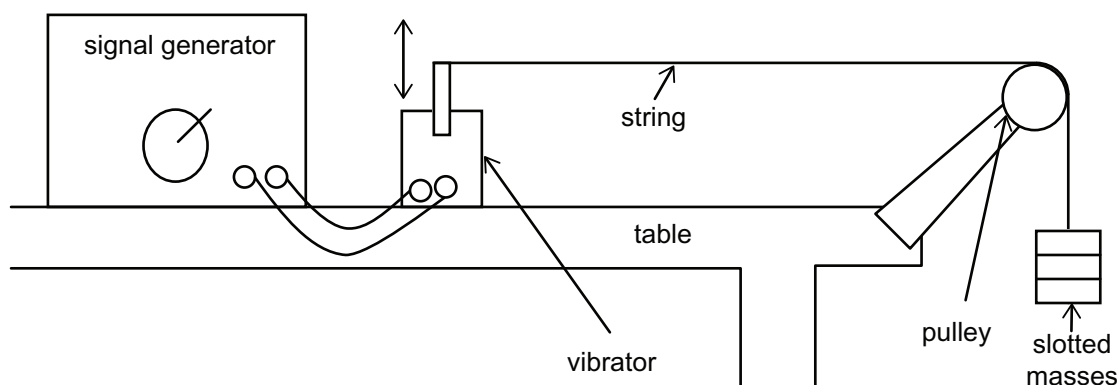

Fig. 3.1
One end of the string is attached to a vibrator and the other end is attached to a slotted mass hanger. The vibrator oscillates producing transverse waves in the string, with a frequency given by the signal generator to which it is connected. The string is looped over a pulley and the slotted masses hang freely, as shown in **Fig. 3.1**. At certain frequencies of vibration resonance is established and standing waves are set up on the string.
- (i) Explain how a value for the tension is determined in the arrangement shown in **Fig. 3.1**.